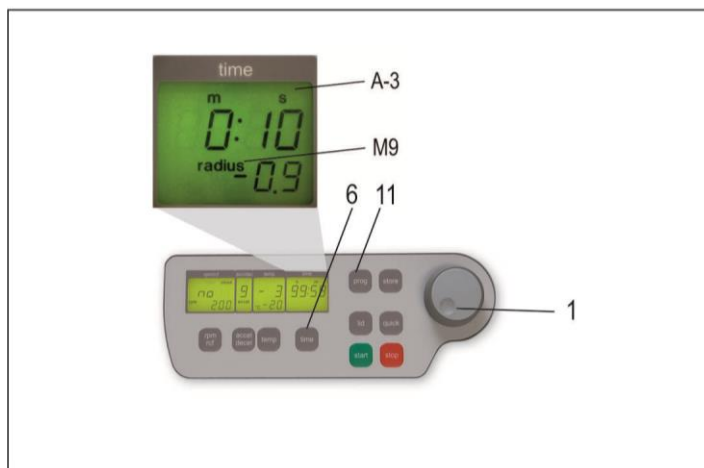
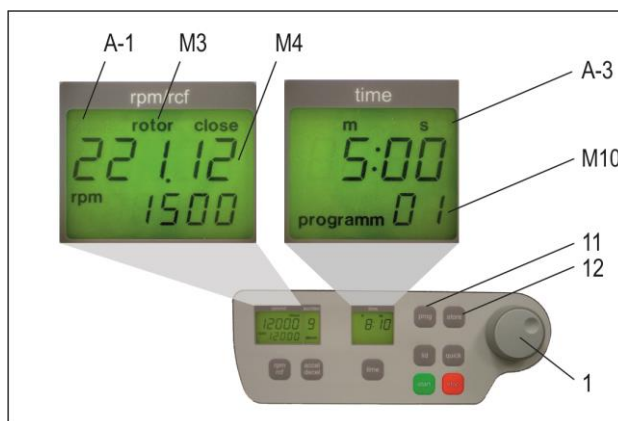

Figure 27
Figure 28
For all number marked text please refer to Figure 27.
Put the desired rotor into the centrifuge. By pressing the key "prog" (11) in the display "time" (A-3) appears the word "program" (see Figure 28). With the adjustable knob (1) choose the desired program number.
If a program number is already occupied, in the display "rpm/rcf" (A-1), the words "rotor" (M3) and "22x.xx" (M4) will appear (see Figure 28). Free program numbers will appear as 0.
Close the lid of the centrifuge, now proceed as described above to set all important run parameters. If the lid isn't closed when storing, the program in the display "rpm/rcf" (A-1) flashes alternately the word "FirSt" and "CLOSE Lid" (see Figure 27). When starting the run without storing the program, in the display "rpm/rcf" (A-1) flashes alternately the word "First" and "PrESS StoreE" (see Figure 28).